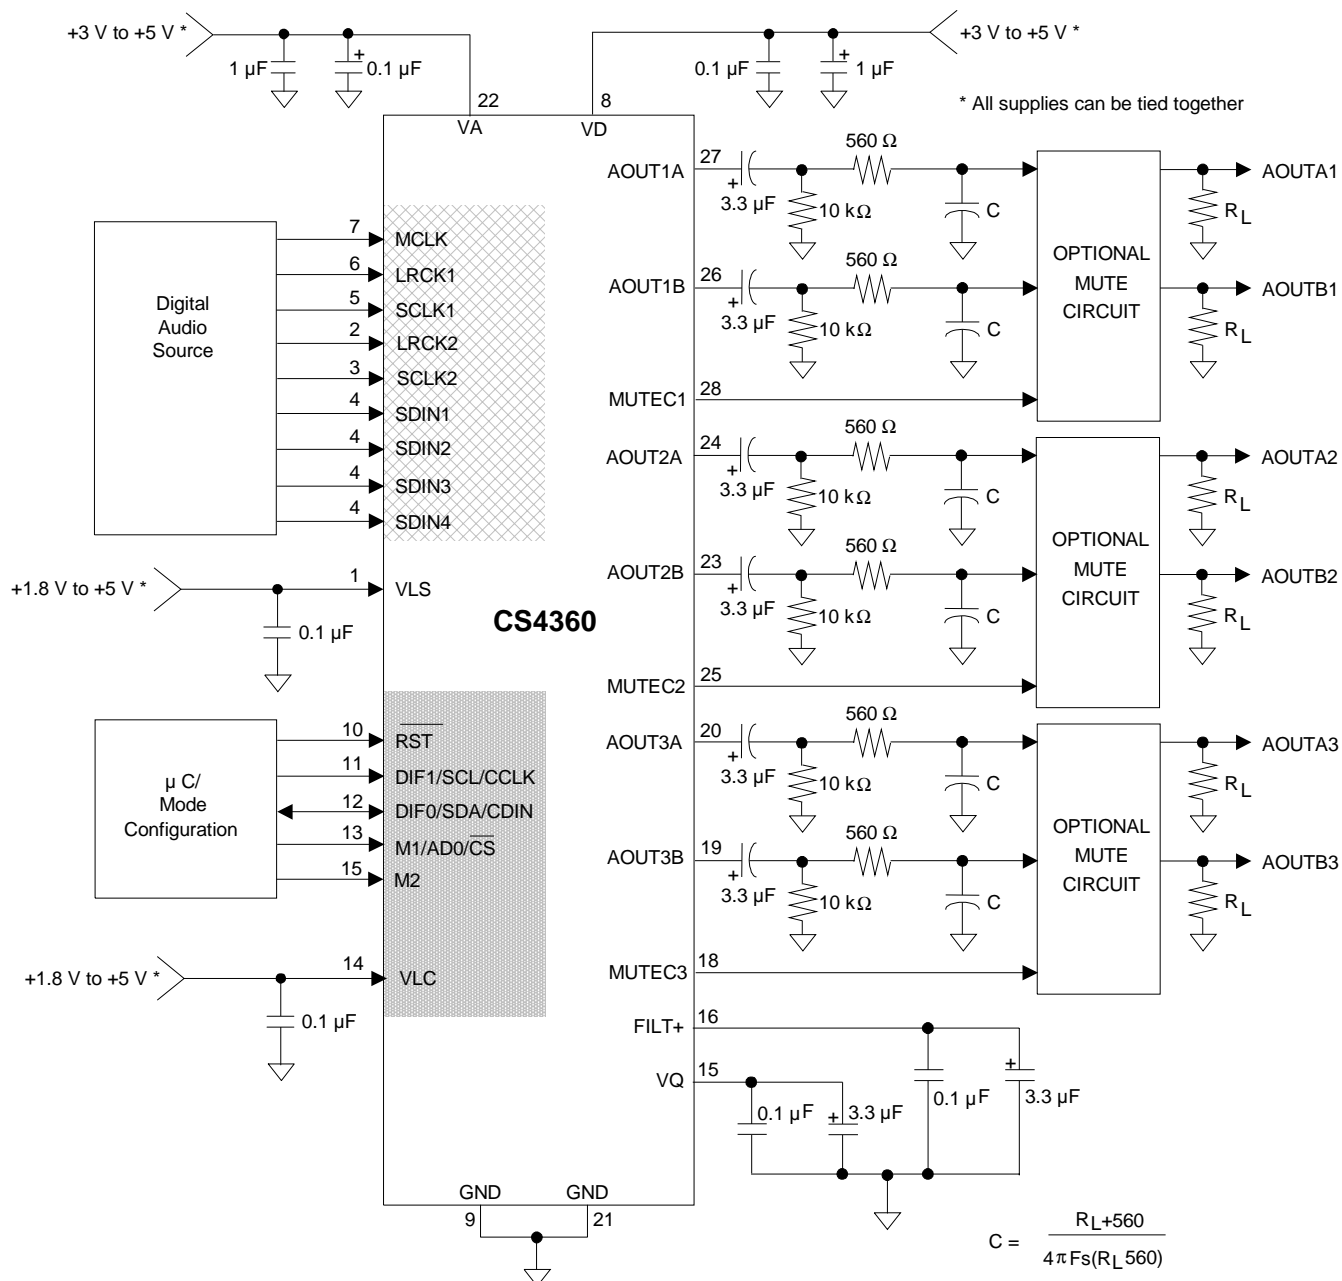

Figure 4. Typical Connection Diagram
12. Valid with the recommended capacitor values on $FILT+$ and V_{CM} as shown in Figure 4.